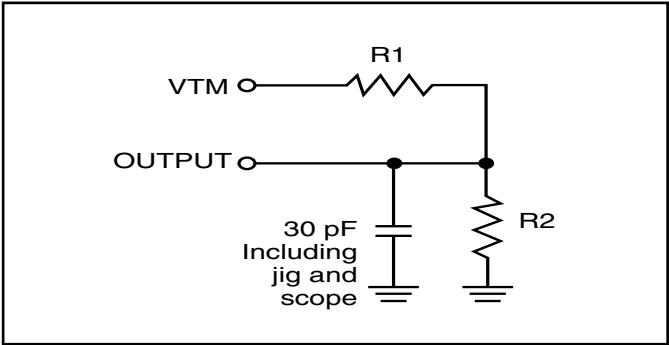

Figure 1.
| Output Load                                                        | See Figures 1 and 2            | See Figures 1 and 2            | See Figures 1 and 2            |
1. Test conditions assume signal transition times of 5 ns or less, timing reference levels of 0.9V/1.5V, input pulse levels of 0.4 to VDD-0.2V/VDD-0.3V and output loading specified in Figure 1.